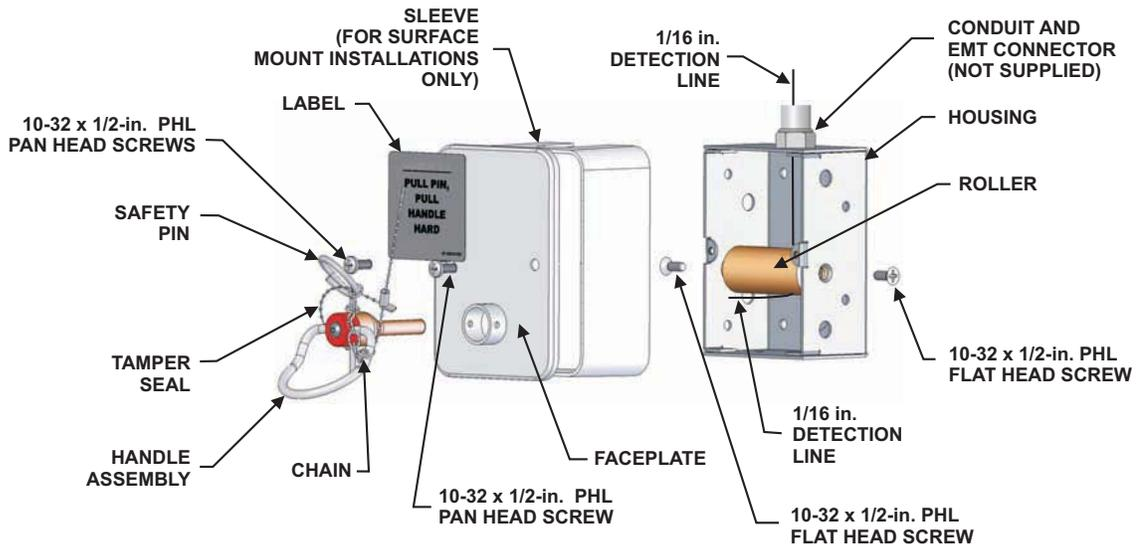
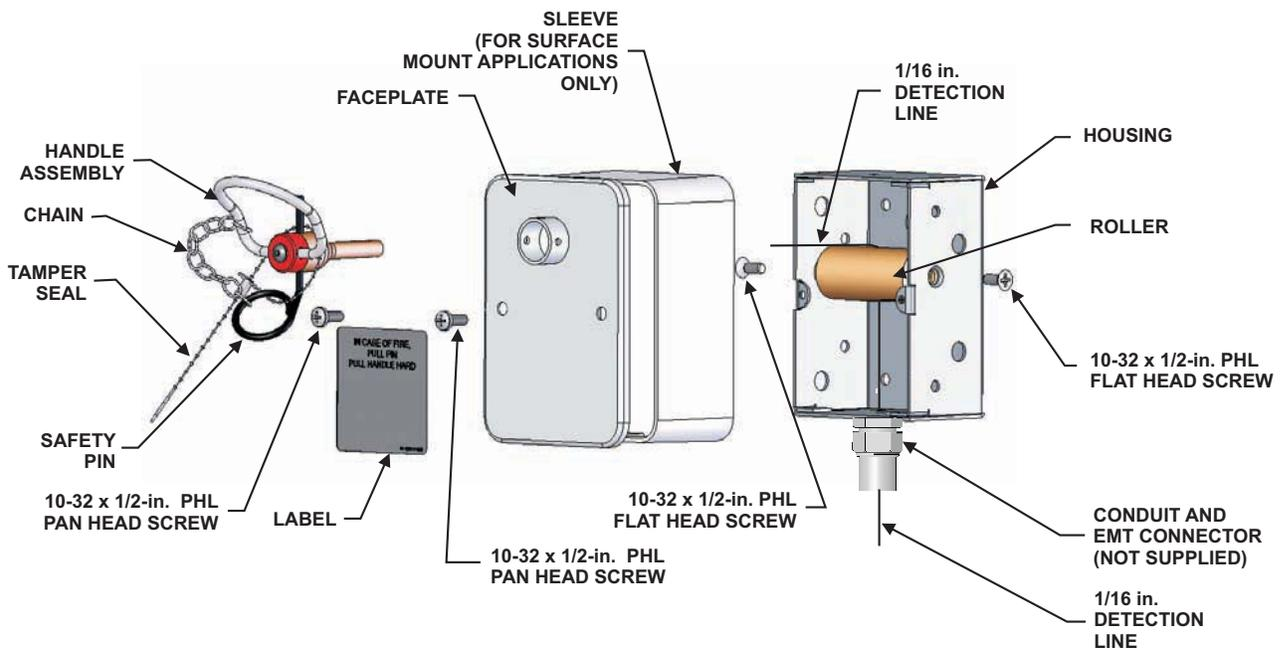

Figure 4-37. Remote Manual Release Pull Station, Pull-to-Trip (EMT/Conduit at Top)
Figure 4-38. Remote Manual Release Pull Station, Pull-to-Trip (EMT/Conduit at Bottom)
4. Install the roller to the housing using the #10-32 x 1/2-inch flat head screws provided. If the EMT/Conduit is at the top, refer to Figure 4-37. Route 1/16-inch (2 mm) diameter stainless steel detection line cable as shown. If the EMT/Conduit is at the bottom, refer to Figure 4-38. Route 1/16-inch (2 mm) diameter stainless steel detection line cable as shown.